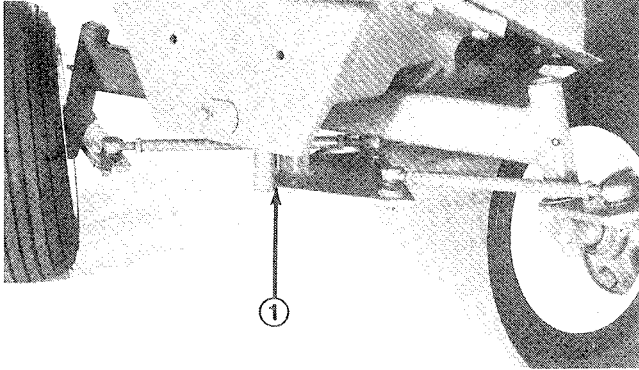
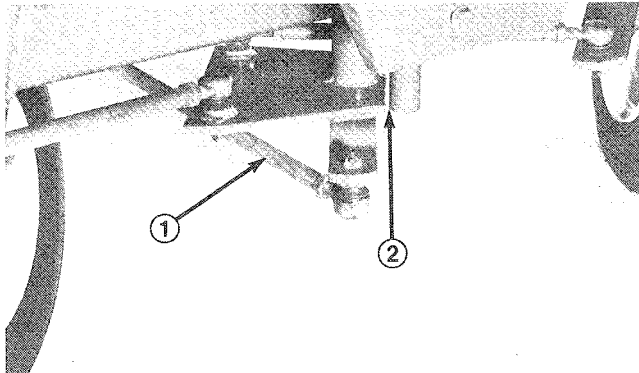

Figure 53
Figure 54
4. Turn steering wheel completely to the right until it bottoms out in steering gear box. Check steering plate with respect to stop on rear axle pivot (Fig. 53). Steering plate must contact the stop. If parts do not contact, loosen jam nuts on rear steering rod (Fig. 54). Shorten the rear steering rod until steering plate contacts the stop while steering wheel is locked for a full right turn (Fig. 53).
5. Turn steering wheel completely to the left until it bottoms out in steering gear box. Check steering plate with respect to the stop on the rear axle plate (Fig. 54). There should be a maximum gap of approximately 1/4" (6mm) between the stop and steering plate.